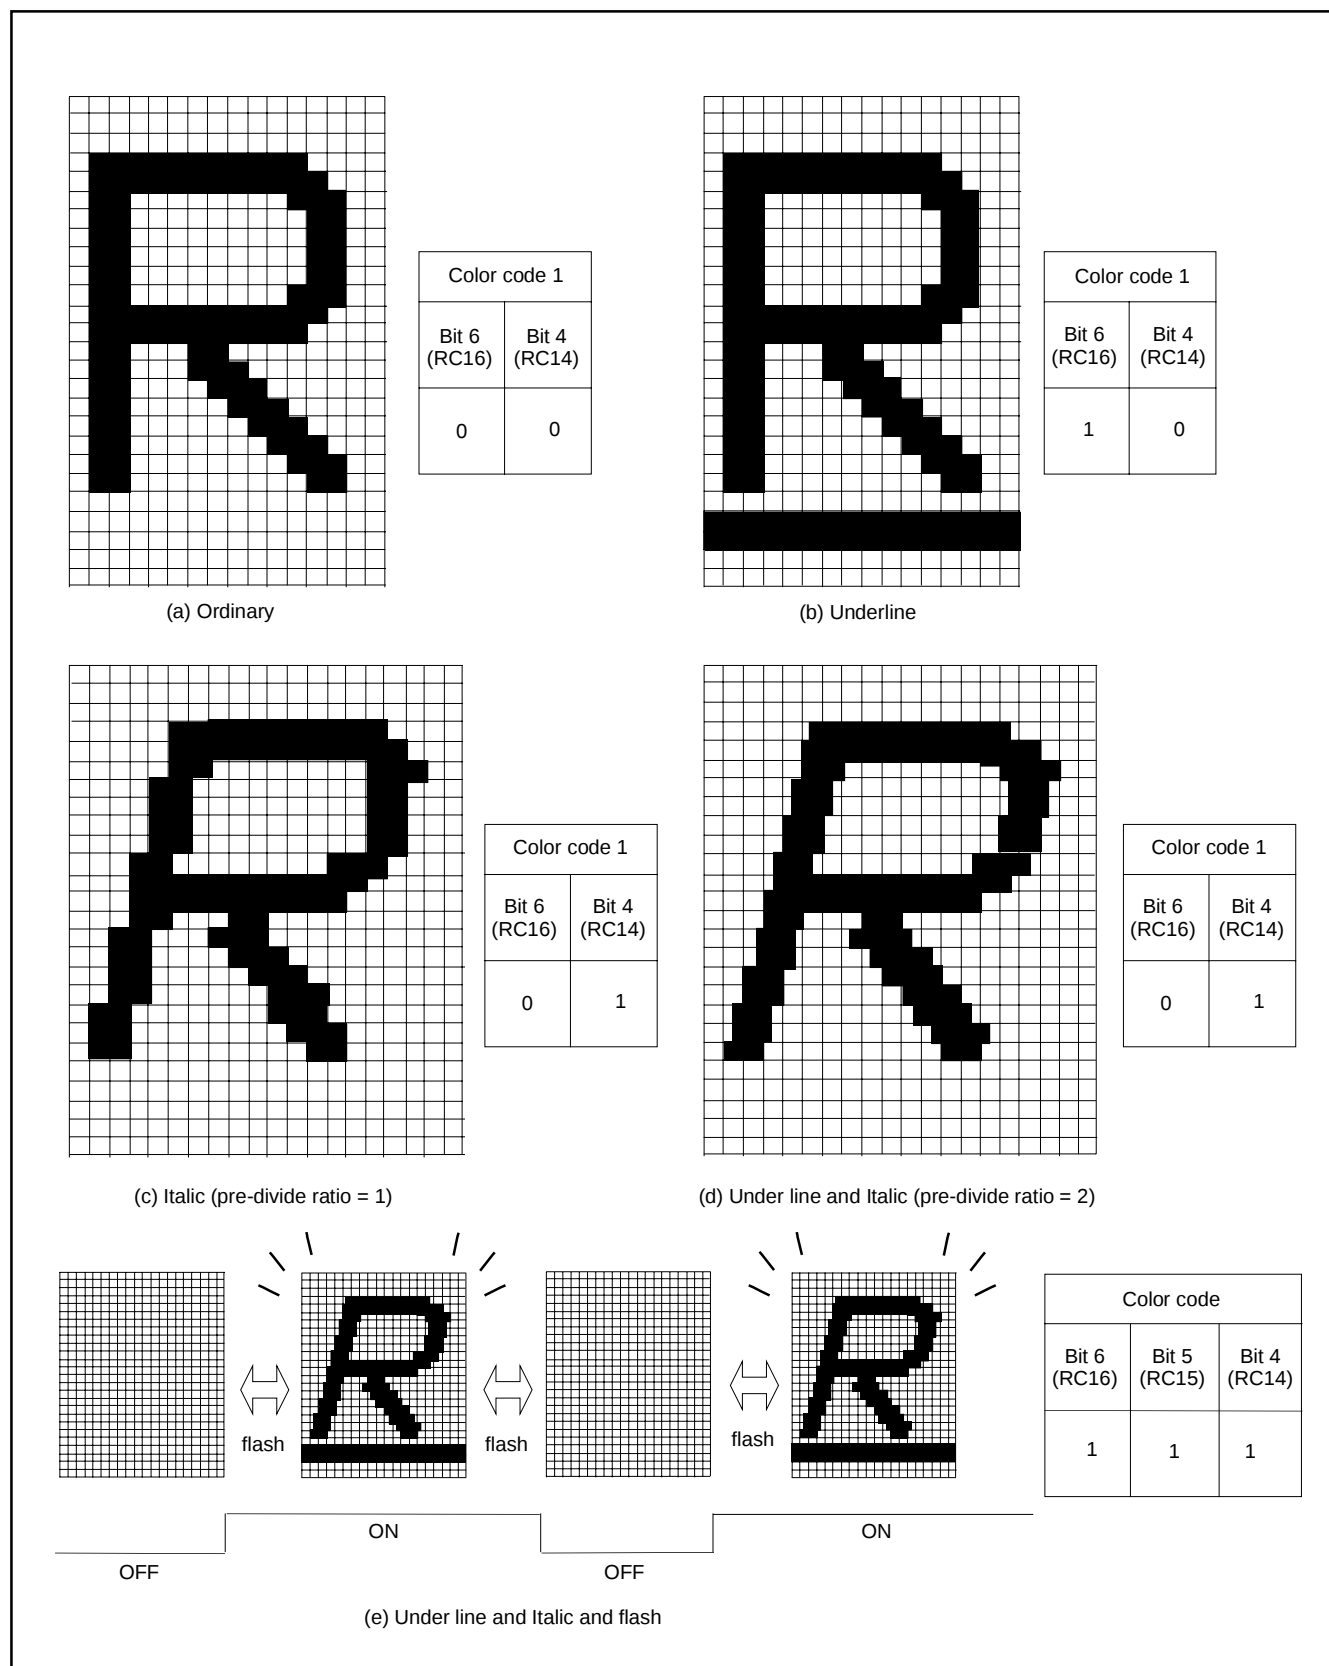

Fig. 8.11.30 Example of Attribute Display (in CC Mode)
The display example of attribute is shown in Figure 8.11.30. In this case, "R" is displayed.
**4:** When the pre-divide ratio = 1, the italic character with slant of 1 dot X 5 steps is displayed ; when the pre-divide ratio = 2, the italic character with slant of 1/2 dot X 10 steps is displayed (refer to Figure 8.11.30 (c), (d)). However, when displaying the italic character with the pre-divide ratio = 1, set the OSD clock frequency to 11 MHz to 14 MHz.
**7:** When displaying the 32nd character in the italic and when solid space is off (OC14 = "0"), parts out of character area is not displayed (refer to Figure 8.11.30).